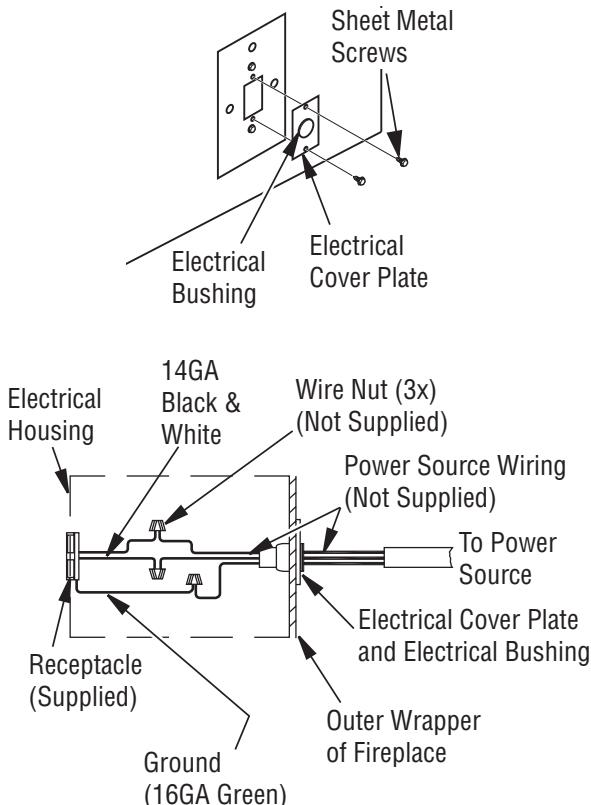

Figure 9 - Connecting Electricity
1. Remove electrical cover plate with bushing from left side of fireplace front by removing 2 sheet metal screws as shown in **Figure 9**.
3. Slide all wiring connections in electrical housing as shown in **Figure 9**.